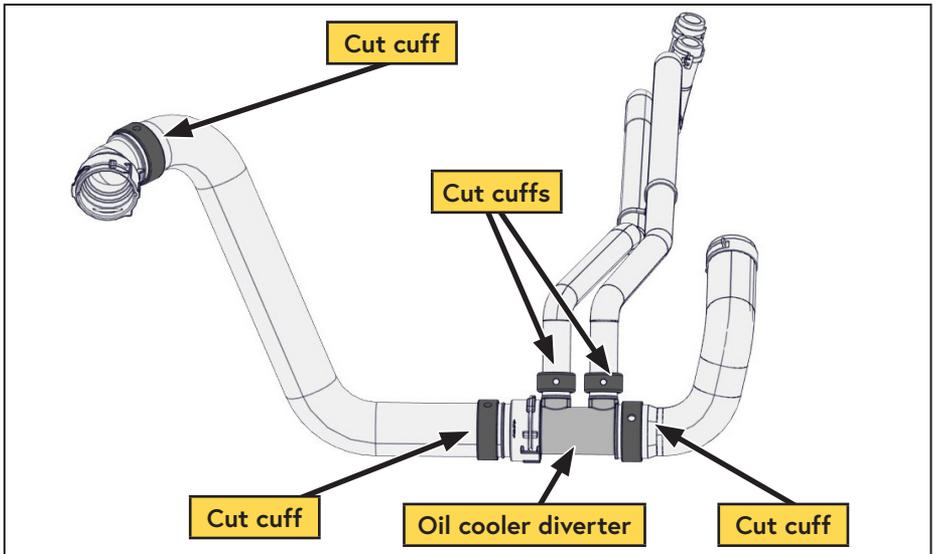

Figure 27 — Modify lower radiator hose assembly
- Carefully cut the (x5) molded plastic cuffs clamping the lower radiator hose to the oil cooler diverter valve and the OEM quick connect. After removing the cuffs, separate the hoses from the fittings (Figure 27).